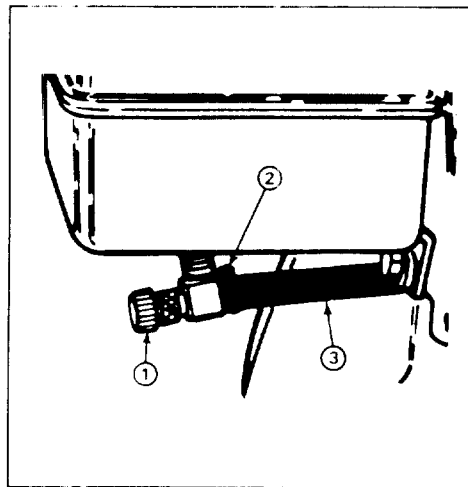

Figure 19
1. Close fuel shut-off valve located under fuel tank (Fig. 19).
3. Loosen hose clamp securing fuel line to valve and slide line off valve (Fig. 19).